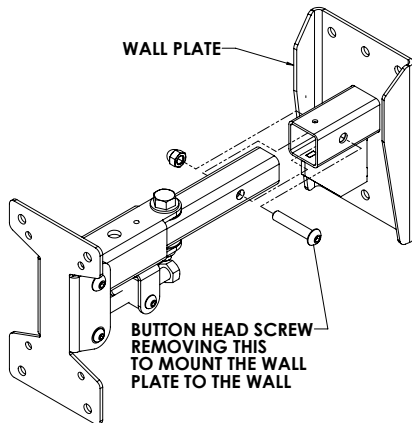

Figure 1
**Step 1:** Disassemble the wall plate, this will allow the wall plate to be mount to the wall with no interference (*Figure 1*).
Lift speaker and mount up to the wall mounting plate, feed wire in through the end of the support arm tube and out through the tube's upper hole. Re-attach speaker & mount assy to the wall plate then secure with the button head screw (*Figure 1*).